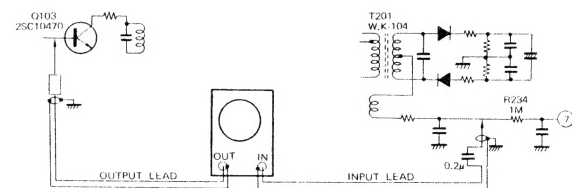
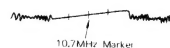

Figure 6
Figure 7
- In condition of Figure 6, adjust vertical gain (80 dB ATT.) for approx. 1/3 height output wave form. Output wave form on the Interscope is as shown in Figure 7.